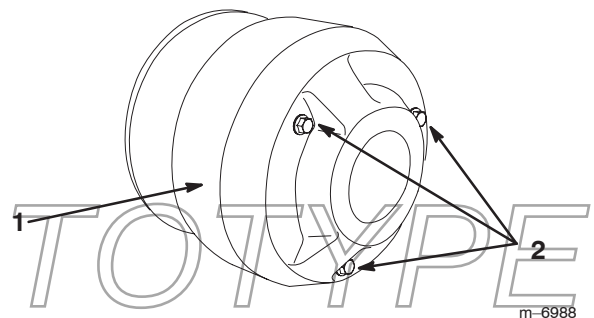

Figure 55
4. Remove the 3 bolts securing the cover to the clutch and remove the cover (Fig. 55).